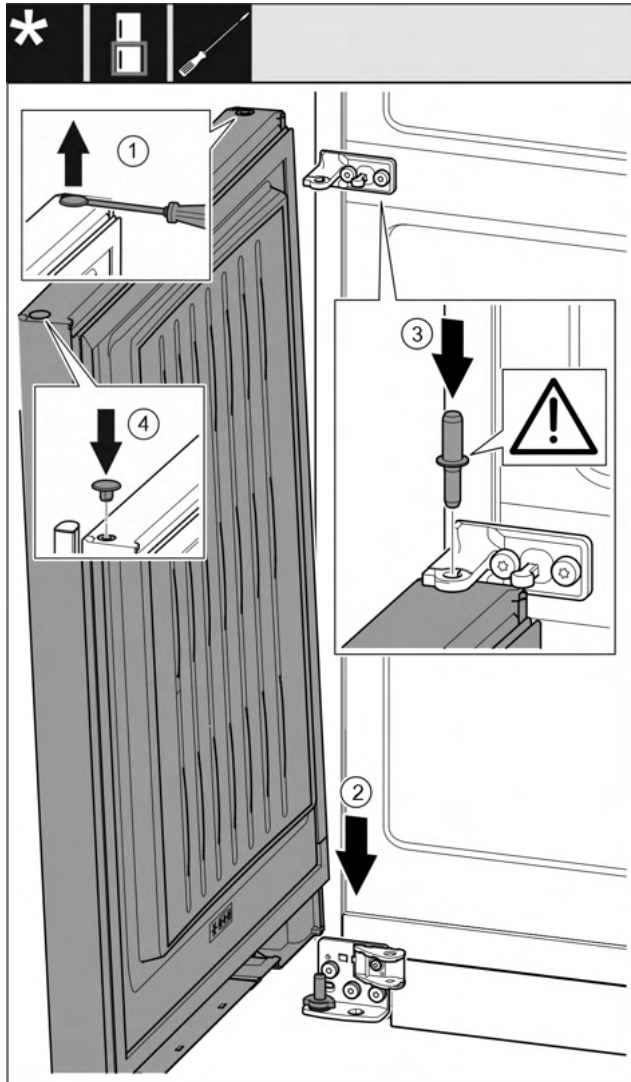

Fig. 40
- ▶ Carefully lift the plug Fig. 40 (1) with a slotted screwdriver and pull it out.
- ▶ Fit the door Fig. 40 (2) onto the lower bearing pin from the top.
- ▶ Insert the center bearing bolt Fig. 40 (3) through the center swap bearing block into the bottom door. In the process, make sure that the latching cam shows towards the rear.
- ▶ Reinsert the plug Fig. 40 (4) on the other side of the door.